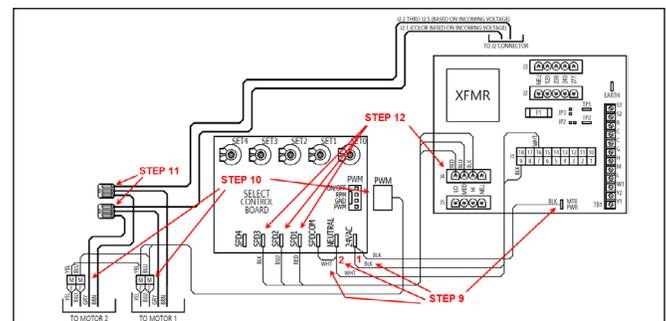

Figure 68 - Select PWM Electrical Connections
CONNECT POWER TO SELECT PWM (See Figure 68)
CONNECT MOTOR CONTROL SIGNAL TO SELECT PWM (See Figure 68)
CONNECT MOTOR POWER WIRES TO FRBii (See Figure 68)
CONNECT FAN CONTROL WIRES TO SELECT PWM (See Figure 68)
- Ensure that the new wires have been connected as specified in Figure 68.